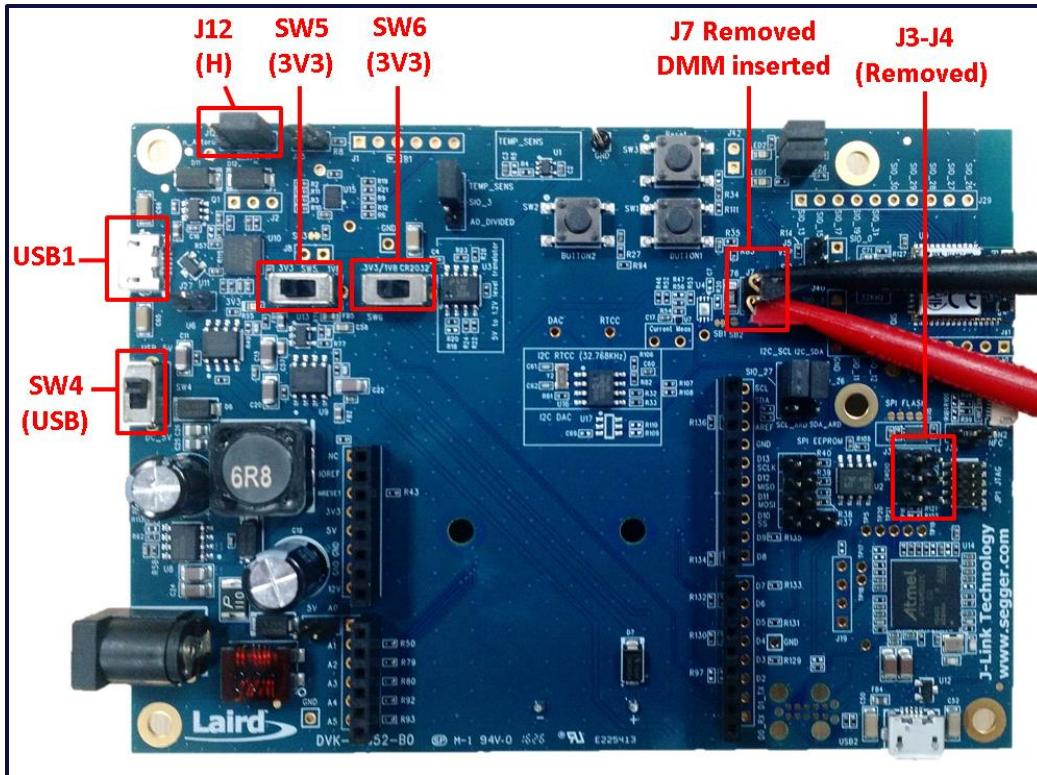

Figure 1: BL652 development board
1. Configure the board to the following settings (shown in Figure 1)
2. To measure the current consumption of the module, connect the current measuring DMM to J7 on the development kit (Figure 1).